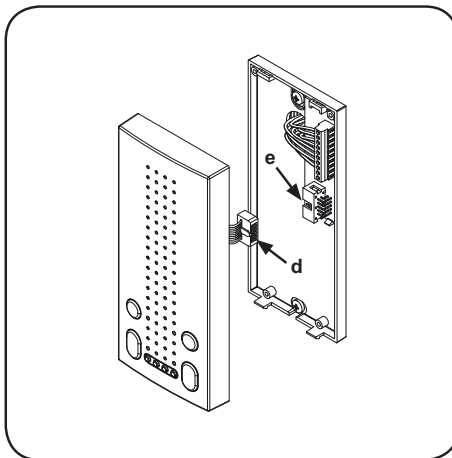

Fig.5
- Connect ribbon cable plug "d" from the front plate into plug "e" on the pcb connection board as shown in Figure 5.